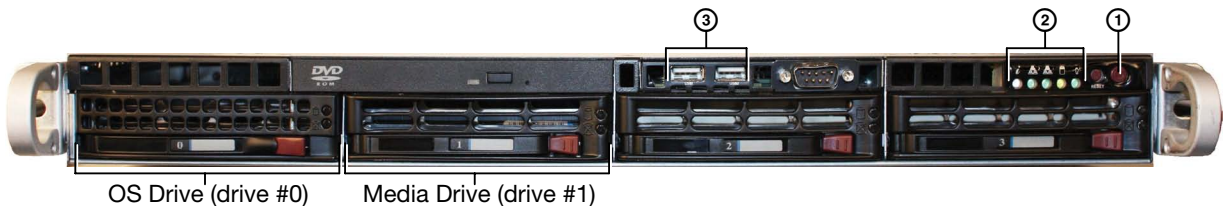

Figure 14. Media Drive and OS Drive
1. Switch the recorder off by pressing and holding down the power switch (figure 14, ①) until the LEDs (figure 14, ②) flash red and then go out.
1. Attach a mouse to the rear panel PS/2 mouse port (⑤) and a keyboard to the rear panel PS/2 keyboard port (⑥). Alternatively, you may connect the mouse and keyboard to the front panel USB ports (③ in the figure on page 15) or the rear panel USB ports (④).
2. Connect a VGA monitor to the rear panel port (⑦).
3. Power on the recorder by pressing the front panel power switch (① in figure 14 on page 15).
1. If necessary, switch the recorder off by pressing and holding down the power switch (figure 14, ①) until the LEDs (figure 14, ②) flash red and then go out.